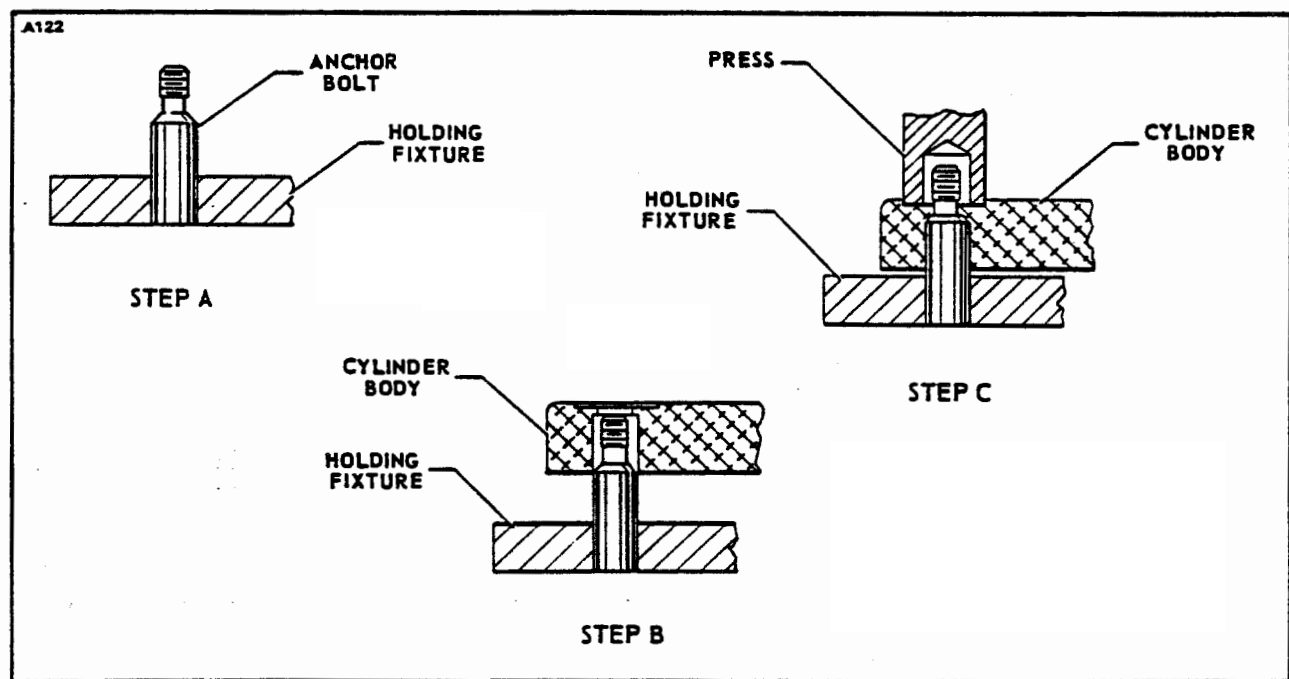

Figure 7-11. Installation of Anchor Bolt
- 1. Support Anchor Bolt in a holding fixture. (Refer to Figure 7-11, Step A).
- 2. Align cylinder body over anchor bolt. (Refer to Figure 7-11, Step B).
- 3. Use a suitable arbor press and apply pressure on the spot face directly over the anchor bolt hole. (Refer to Figure 7-11, Step C).